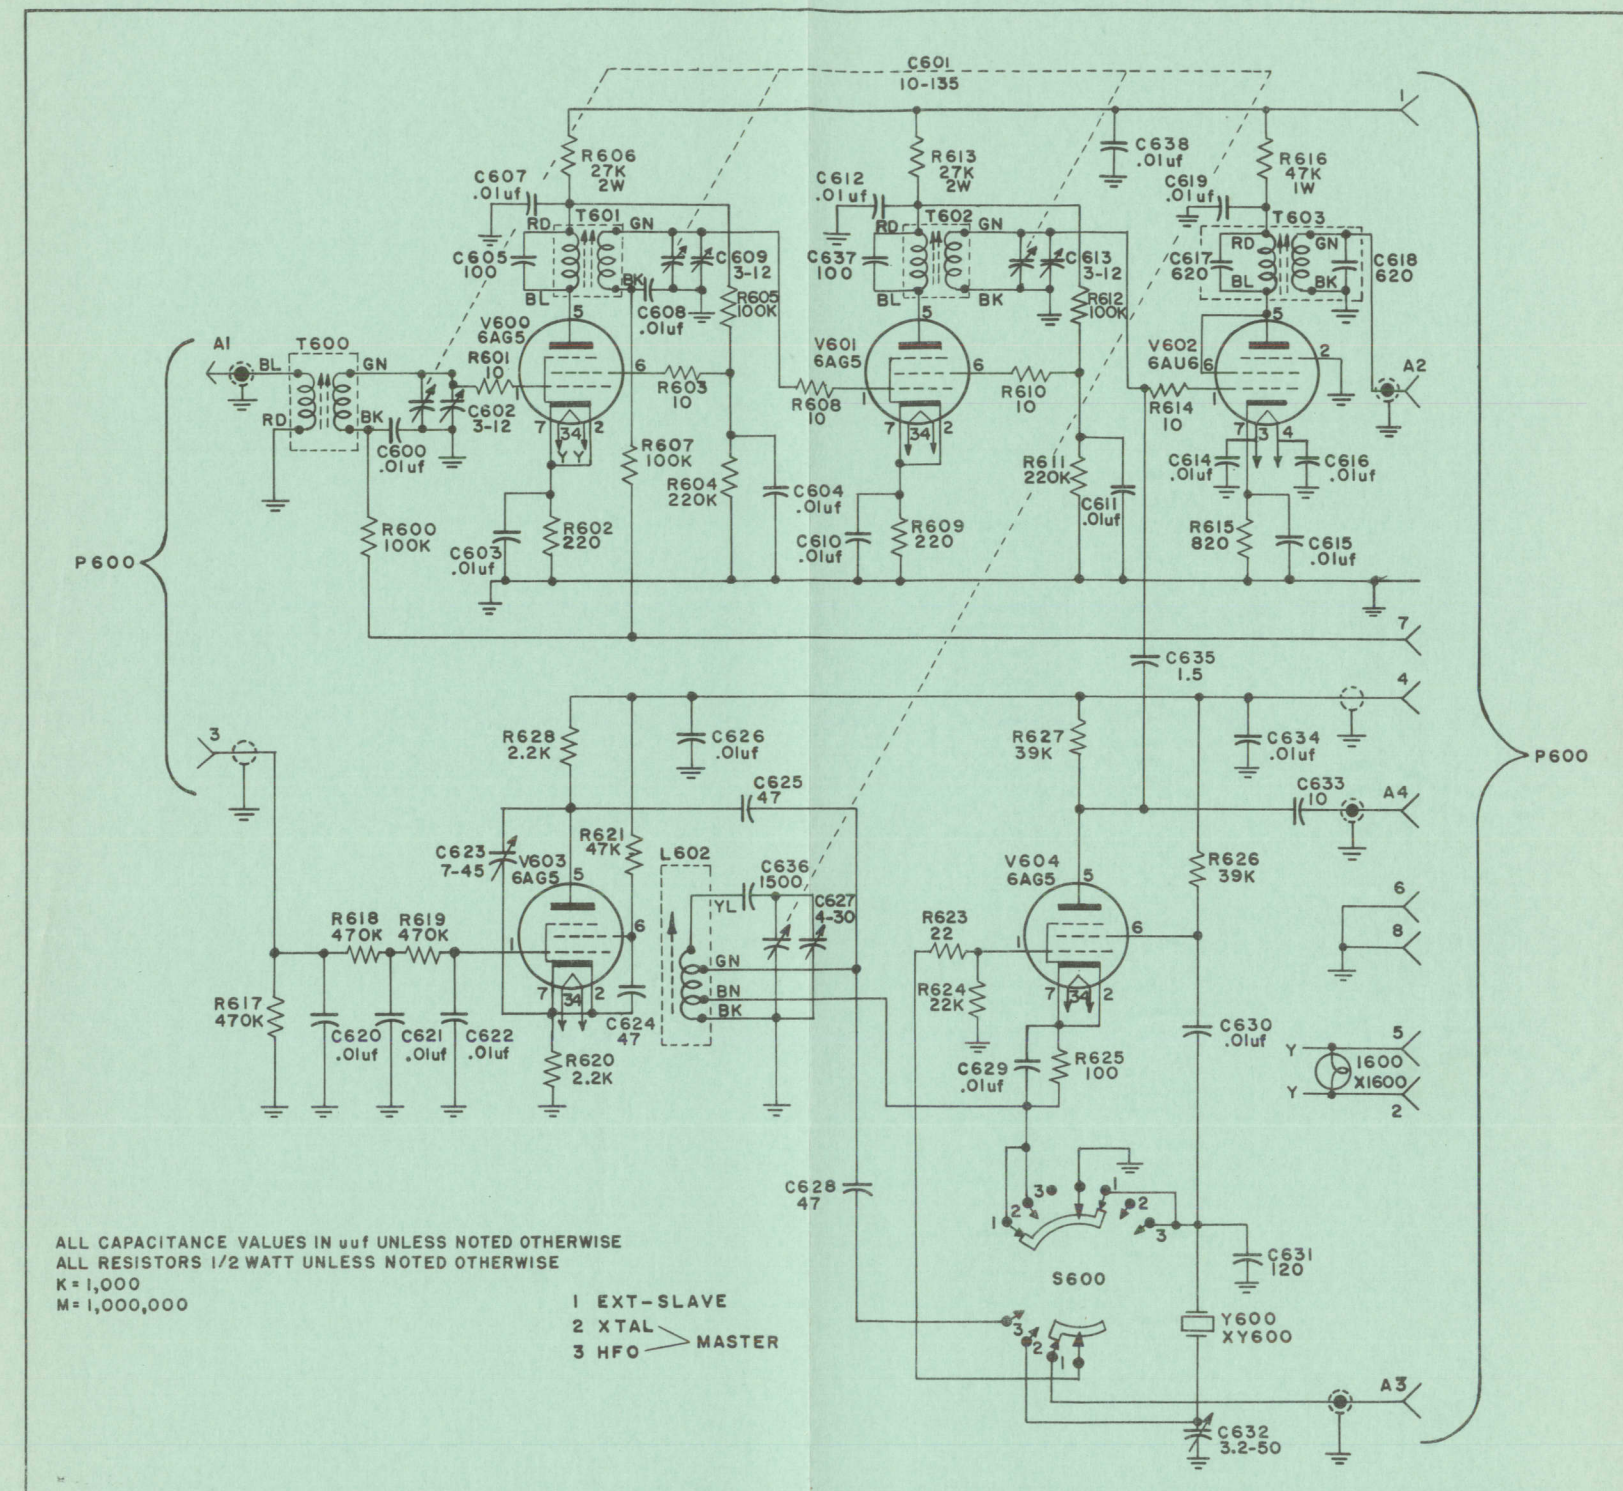

Figure 8 Schematic Diagram, TN-5011/FRR-502
- Figure 8 Schematic Diagram, TN-5011/FRR-502